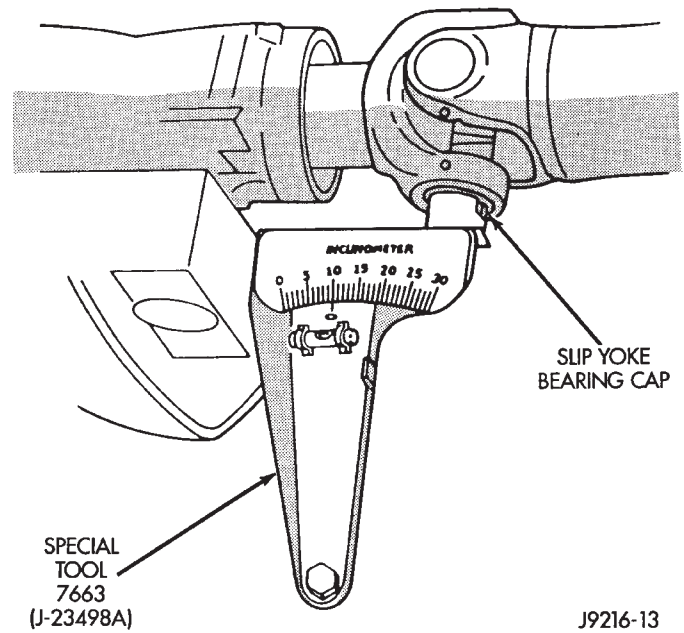

Fig. 5 Front (Output) Angle Measurement (A)
- (2) Place Inclinator on yoke bearing (A) parallel to the shaft (Fig. 5). Center bubble in sight glass and record measurement.